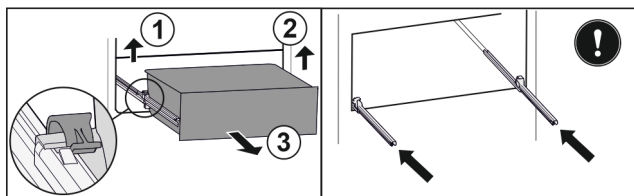

Fig. 98
- ▶ Lift left clamp and simultaneously pull drawer forwards on the left. Fig. 98 (1)
- ▶ Lift right clamp and simultaneously pull drawer forwards on the right. Fig. 98 (2)
- ▶ Remove drawer to the front. Fig. 98 (3)